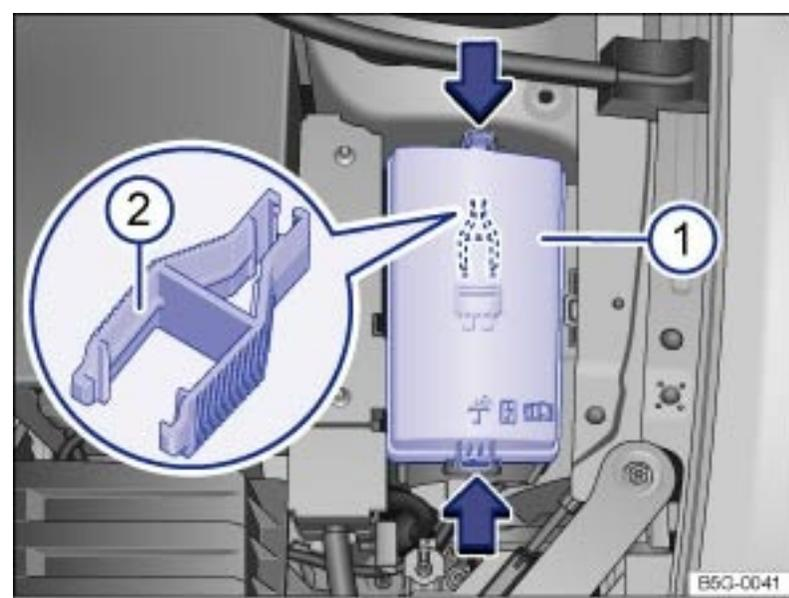

Fig. 221 In the engine compartment: Fuse box cover ① with tweezers ②.
- ▶ Press the release tabs in the direction of the arrows → Fig. 221 to unlock the fuse box cover ①.
In some vehicles, there are plastic tweezers for removing fuses on the inside of the fuse box cover → Fig. 221 ② .